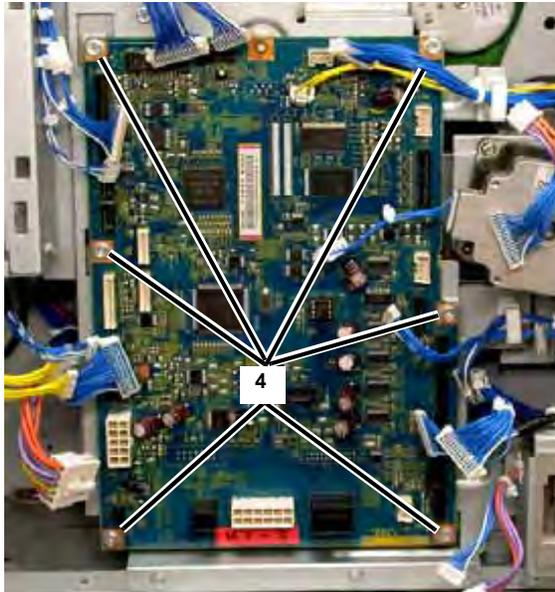

Figure 3 Removing Screws
4. Remove the Screws (6) and the MCU PWB (Figure 3).